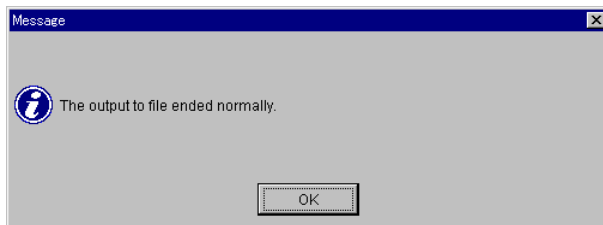

Figure 5.8 Output Confirmation Dialogue Box
6. A message appears, confirming that output to the file is complete (Figure 5.8). Click the OK button.